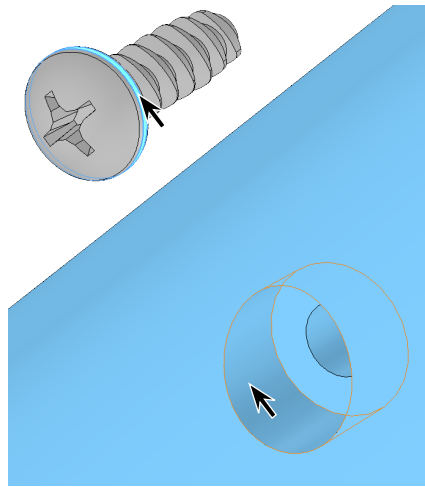

Fig. 8
Step 5. Click **cylindrical face of in Screw head and cylindrical face of screw boss, Fig. 8.**